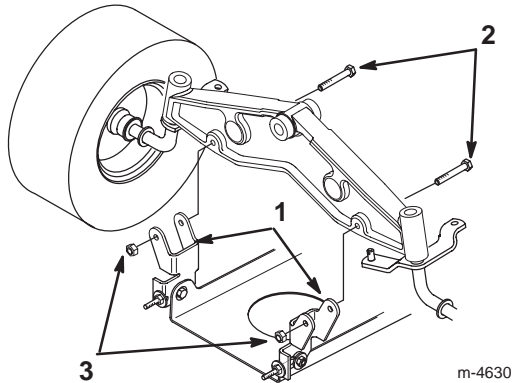

Figure 37
14. Remove the bolts and locknuts and pull the 2 mower pivot mount brackets down from the front axle (Fig. 37).